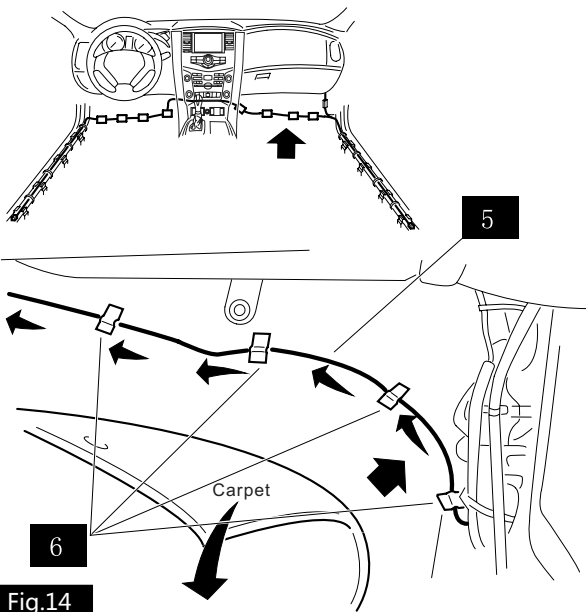

Fig.14
(5) Function check. Shown in Fig. 14
- (6) Flip the carpet of passenger side .
- (7) Route a long harness from the passenger side to the driver side through the front side of the center console. Shown in Fig. 14.
- (8) Attach the long Harness **5** to floor shown in Fig. 14, using the Flat Wire Protector **6**. (4 pieces)